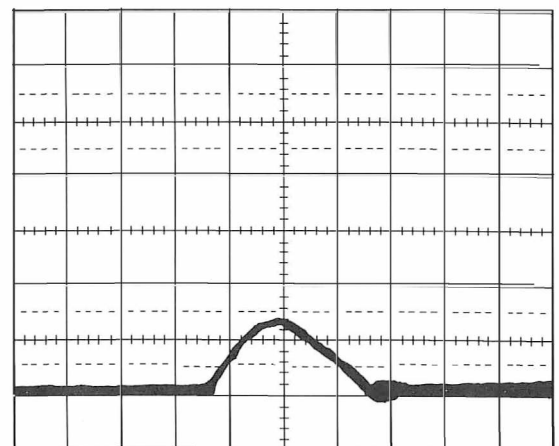

Figure 5-27. Amplitude Marker Waveform
11. Press Spectrum Analyzer CENTER FREQUENCY key then use rotary knob to set Center Frequency so the peak of the blip is at the center line of the oscilloscope screen. (See Figure 5-27.)